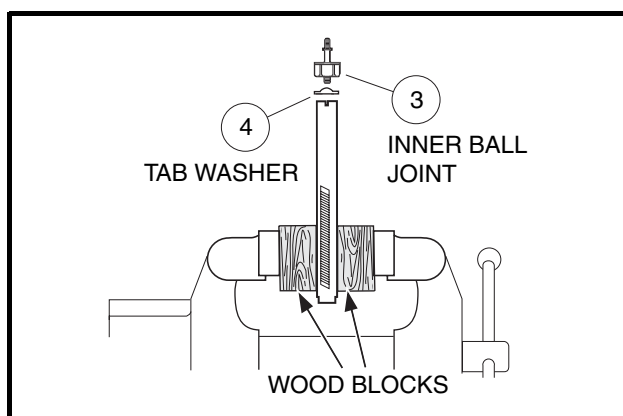

Figure 7-11 Secure Rack in Vise
13. If the inner ball joint (3) is excessively worn, remove the ball joint and tab washer (4) from the rack (**Figure 7-11, Page 7-9**).
- 13.1. Secure the rack in a vise using wood blocks between the rack and the jaws of the vise to protect the rack from damage (**Figure 7-11, Page 7-9**).
1. Install a new tab washer (4) and an inner ball joint (3) (**Figure 7-11, Page 7-9**). Install the ball joint onto the rack by securing the rack in a vise using wood blocks between the rack and the jaws of the vise to protect the rack from damage. Tighten the ball joint to 60 ft-lb (81 N·m).
2. Bend the edges of the tab washer (4) up against the ball joint (3) (**Figure 7-11, Page 7-9**).